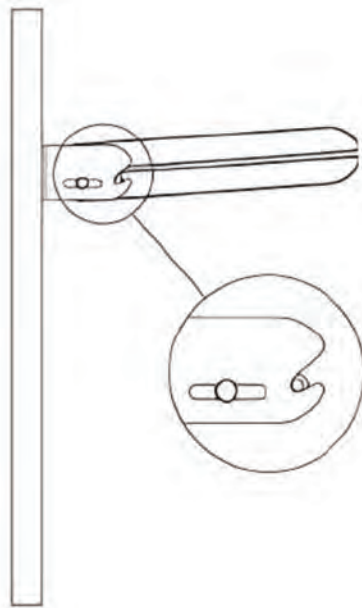

Fig 5.
- Carefully insert the mounting pin located on the bottom of the product into the slot on the wall fixing bracket (FIG 5).
- Verify visually the correct assembly and fixing of the BBQ (FIG 5).